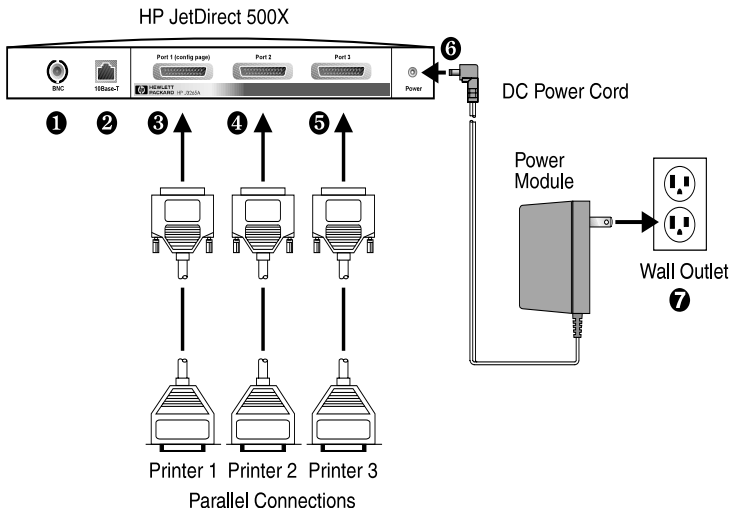

Figure 3-2 Hardware connections using a U.S. power module for the HP JetDirect J3265 Print Server
In the following steps, the circled numbers correspond to those in Figure 3-2. The HP JetDirect 300X and EX Plus have one printer port ❸. The HP JetDirect 500X has a BNC port ❶. The HP JetDirect 500X and 300X has an RJ-45 connector ❷ for either 10- or 100-Mbps operation.
5. Connect the print server to the network ❶ or ❷.
6. Connect the print server to the printer(s) ❸, ❹, and ❺.